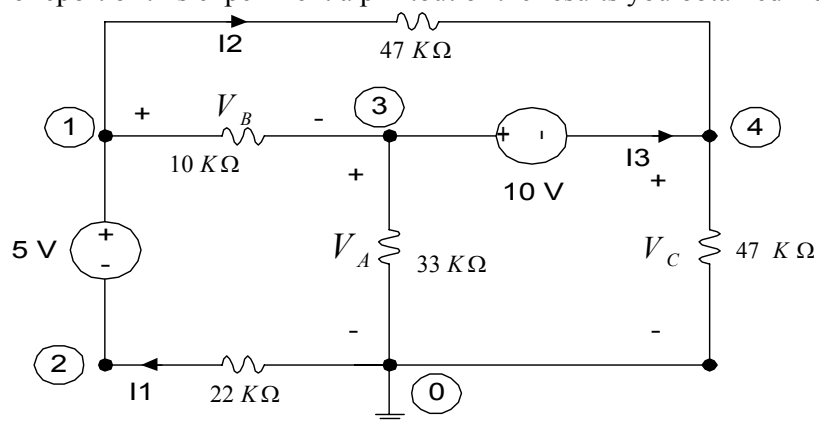

Figure 1
The variables indicated in the circuit of Figure 1 can be solved by using Ohm's Law, KCL and/or KVL. These variables can also be obtained by a computer simulation program known as PSPICE.
1. Simulate the circuit shown in Figure 1 using PSPICE.
4. Connect the circuit shown in Figure 1.